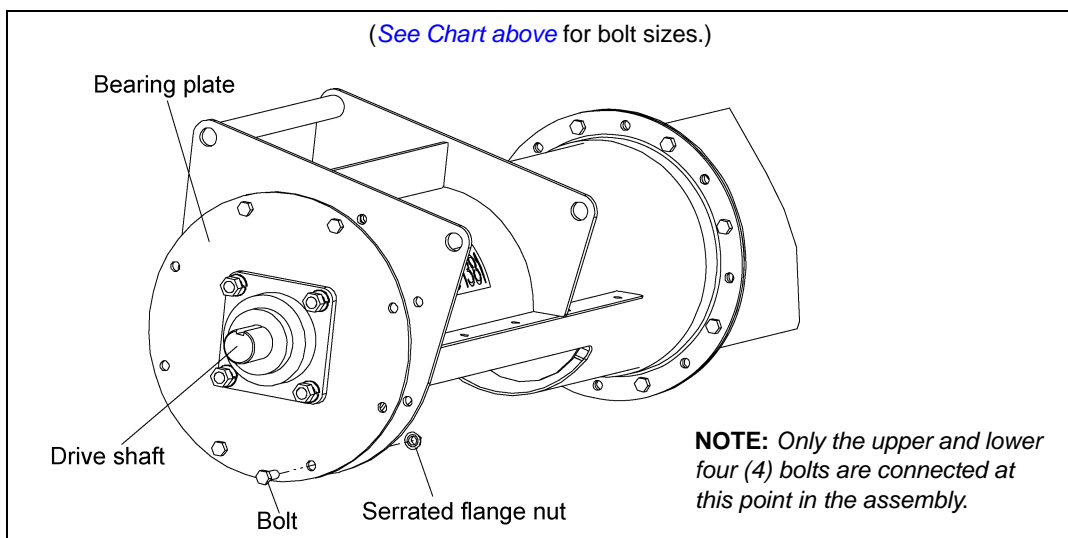

Figure 4C
3. Only secure with UPPER and LOWER four (4) bolts. (See Figure 4C.) The other four (4) bolts will be installed later with the belt guard mounting brackets. (See Chart below.)